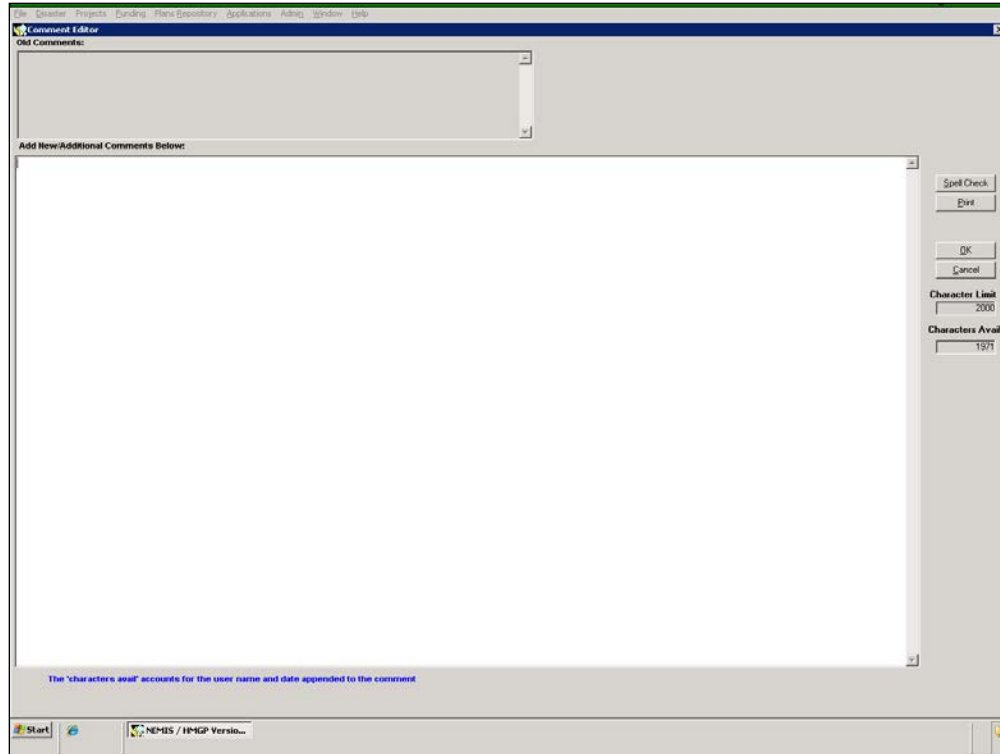

Figure 10-13: The Comment Editor Screen
17. Close the Comment Editor after entering your comment (Figure 10-13).